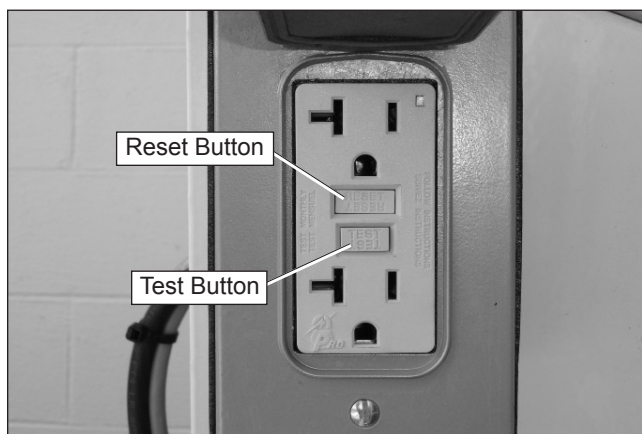

Figure 8.19 – Electrical Power Outlet
1. Push the test button (refer to Figure 8.19).